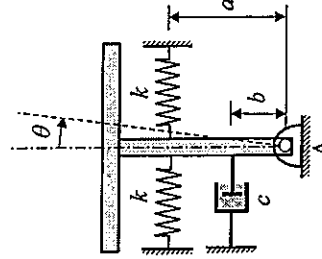

Figure 5
- Figure 5 shows a T-shaped frame hinged at A and connected to two springs of equal stiffness k and a damper of damping coefficient c as illustrated. The T-shaped frame is made of two uniform rigid bars of equal length L and equal mass M . In the position shown, the springs are free (unstrained).
Derive the equation of motion for the system in terms of the coordinate θ shown in Figure 5, and thereby determine the natural frequency of the system (ω_n) in terms of a , k , M and L . Show your derivations clearly by drawing appropriate free body diagrams.